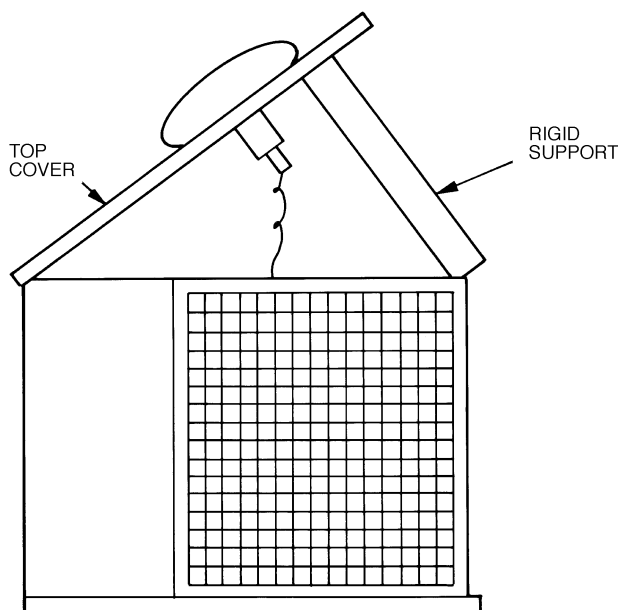

Fig. 24 — Pivot and Support Top Cover
2. Remove screws holding rear corner posts and top cover in place. Pivot top cover up 12 to 18 in. (300 to 450 mm) and support with a board or other adequate rigid support. See Fig. 24.